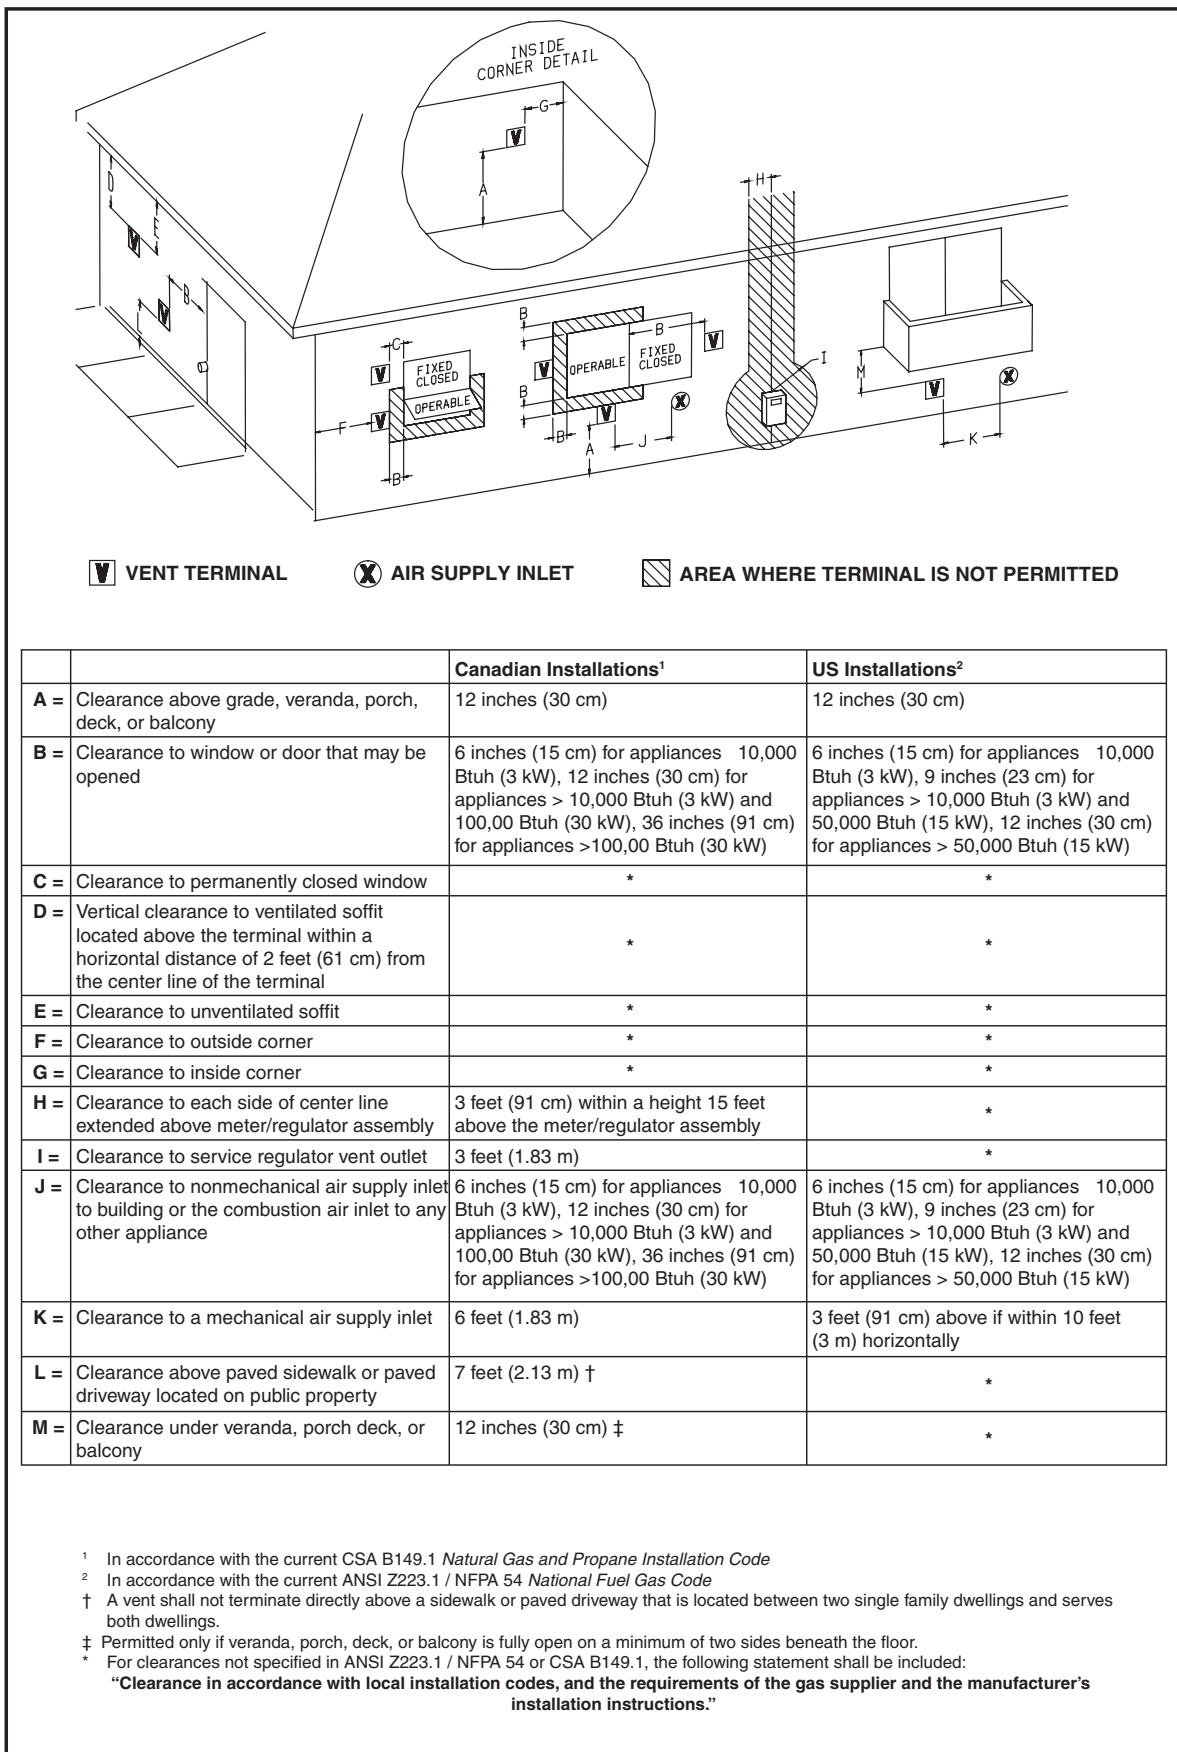

Figure 19. Vent Termination Clearances for Direct Vent Furnaces
Vent and combustion air intake terminations must be as shown in Figure 19 and 20. Vent termination clearances shall be consistent with the National Fuel Gas Code, ANSI Z223.1/NFPA 54 and/or the CSA B149.1, Natural Gas and Propane Installation Code.
Ensure that the combustion air vent and the exhaust vent are configured as shown in Figure 19 and 20. Improper vent termination can cause recirculation of the flue gases. This may result in furnace vibration. In severe cases, the furnace will cycle due to the intermittent contact between the flame and the flame sensor. If you note oscillations occurring, check the vent configuration. Make sure that the exhaust vent does not have a 90 degree termination.
Vent and combustion air intake terminations must be located to ensure proper furnace operation and to conform to applicable codes. Figure 19 and 20 illustrates necessary distances from the vent termination to windows and building air intakes. **In Canada, the Canadian Fuel Gas Code takes precedence over these instructions. Specifically, all minimum distance requirements with respect to termination of the vent piping listed below (items 1 through 8).**